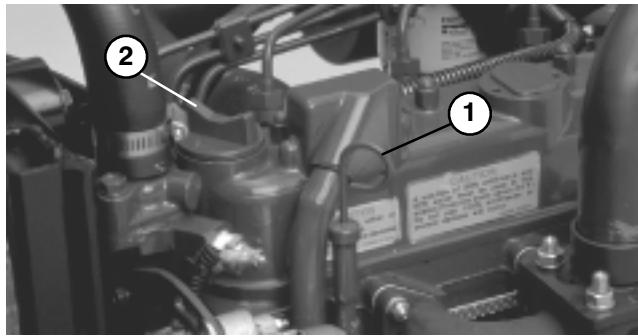
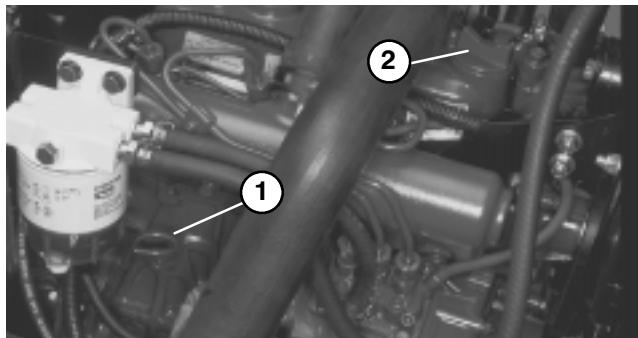

Figure 14
Figure 15
### CHECK ENGINE OIL (Fig. 14 & 15)
2. Remove dipstick, wipe clean and reinstall dipstick. Remove dipstick and check oil level on dipstick; Oil level should be up to FULL mark (Reelmaster 5200 – Fig. 14, Reelmaster 5400 – Fig. 15).